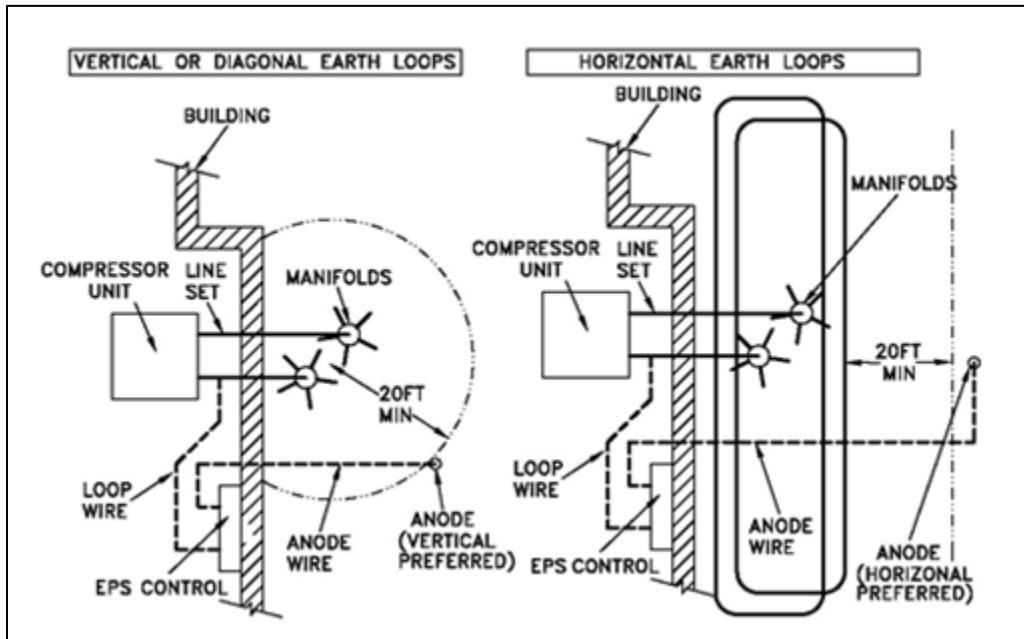
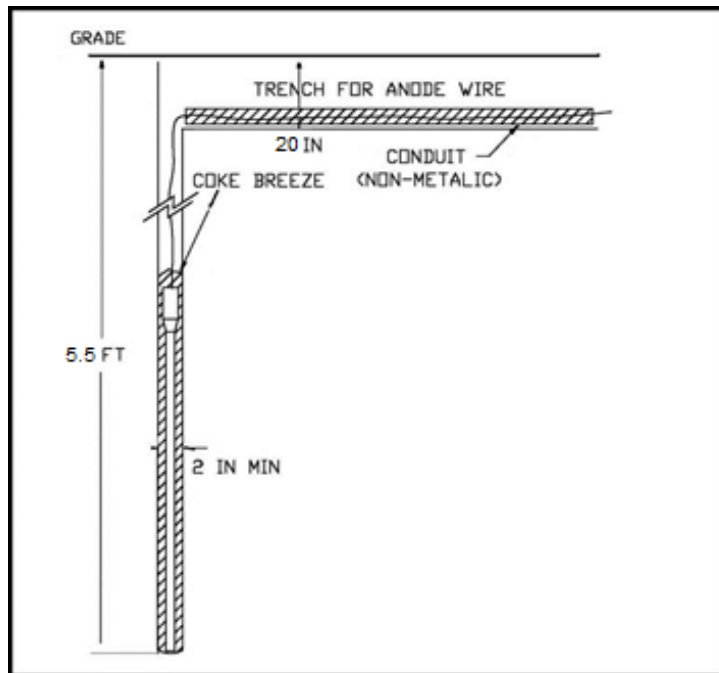
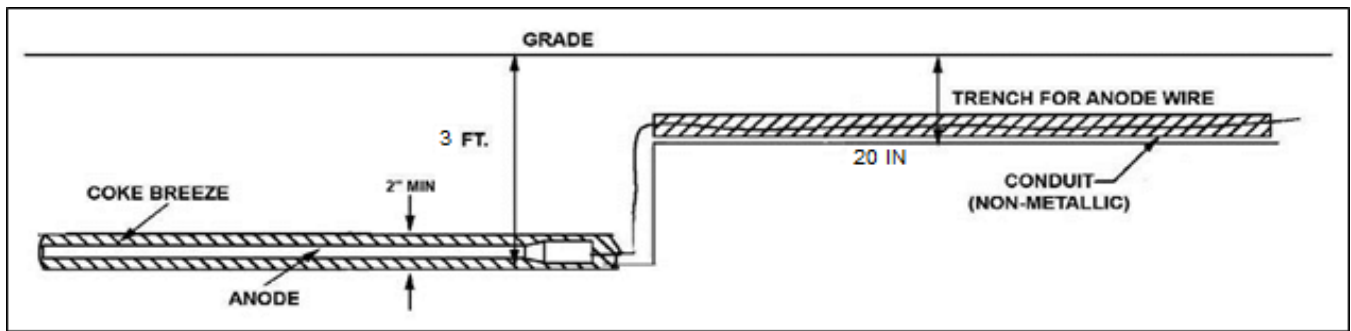

Figure 2. Typical Anode Locations
Figure 3. Vertical Anode Installation
Figure 4. Horizontal Anode Installation
For (1) vertical and diagonal and (2) horizontal earth loop installations, the anode is located as shown in Figure 2. It must be at least 20 feet away, as shown, with NO METAL pipes, wires or other objects between the anode and the earth loops. Figure 2 also shows the general layout and placement of the EPS control anode wire and loop wire.
The installation details for the vertical anode are shown in Figure 3. The vertical anode installation is preferred for vertical or diagonal earth loops; however, the horizontal anode installation as shown in Figure 4 is fully acceptable.
For horizontal earth loops, the earth loop protection system anode should be located at least 20 feet away as shown in Figure 2. No METAL pipes, wires or other objects should be between the anode and the earth loops. The horizontal anode installation as shown in Figure 4 is preferred for horizontal earth loops; however, the vertical anode installation as shown in Figure 3 is fully acceptable.
4. The anode must be fully surrounded on all sides with coke breeze as shown in Figures 3 and 4, and described as follows: